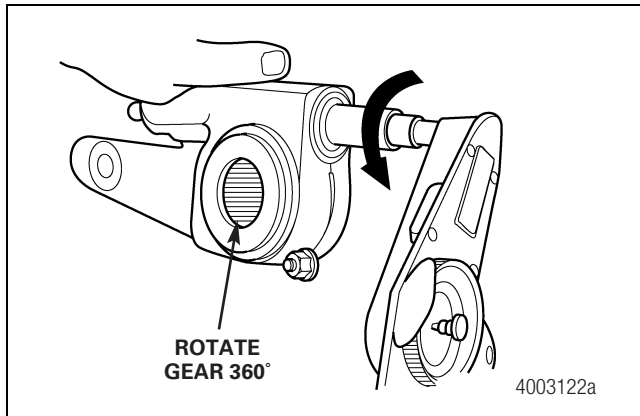

Figure 5.7
- C. Check Meritor automatic slack adjusters by rotating the adjusting nut COUNTERCLOCKWISE with a lb-in torque wrench. Turn the gear 360 degrees or 22 rotations of the adjusting nut. Figure 5.7.